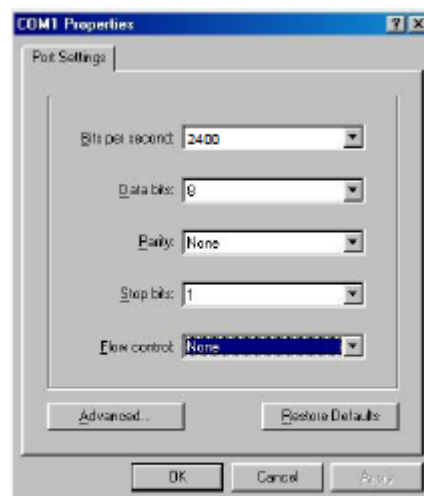

Figure 32
Step 4: The *COM Properties* screen appears (Figure 32). Select the port settings as shown.
The COM Properties Screen reappears (Figure 32). Click OK.